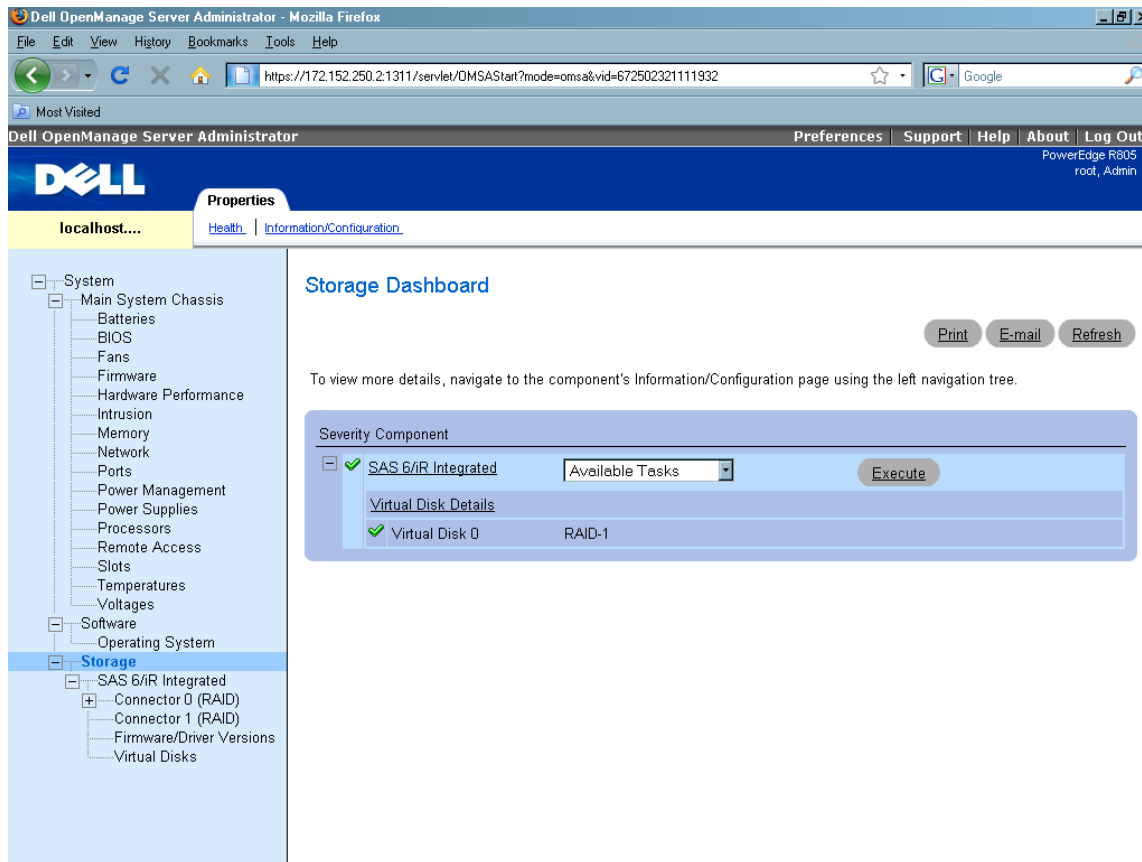

Figure 7: Storage Configuration
- Perform various storage configuration tasks for supported internal and direct-attached storage, including configuring virtual disks, assigning hot spares, and triggering tasks such as rebuilding failed drives (see Figure 7).